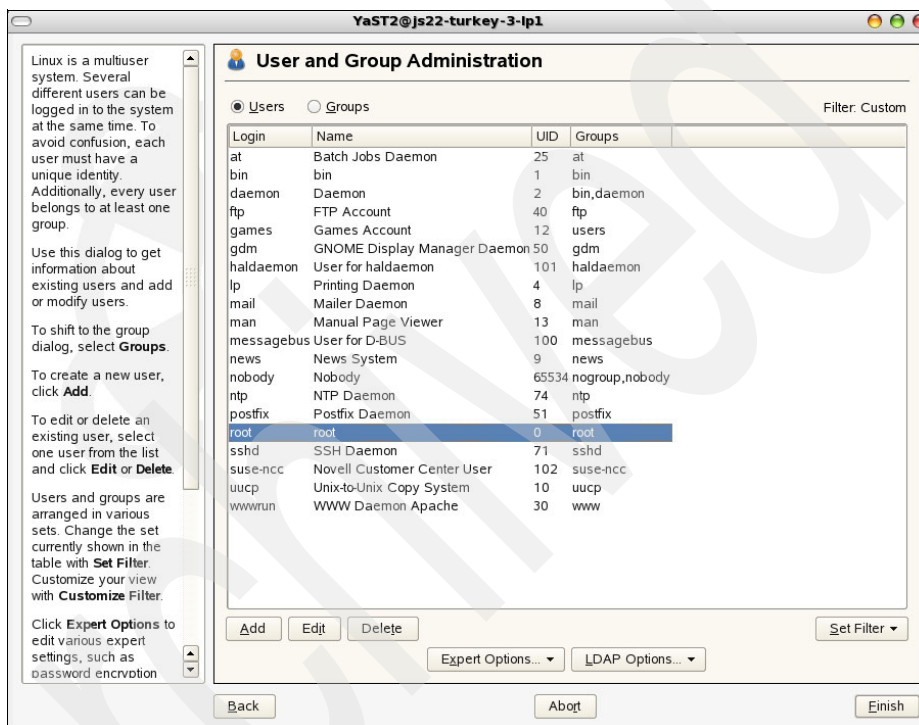

Figure B-8 Configure the root user
- iii. Select **Users**, select the **root** row, and change the filter by clicking **Set Filter** → **System Users**; see in Figure B-8.